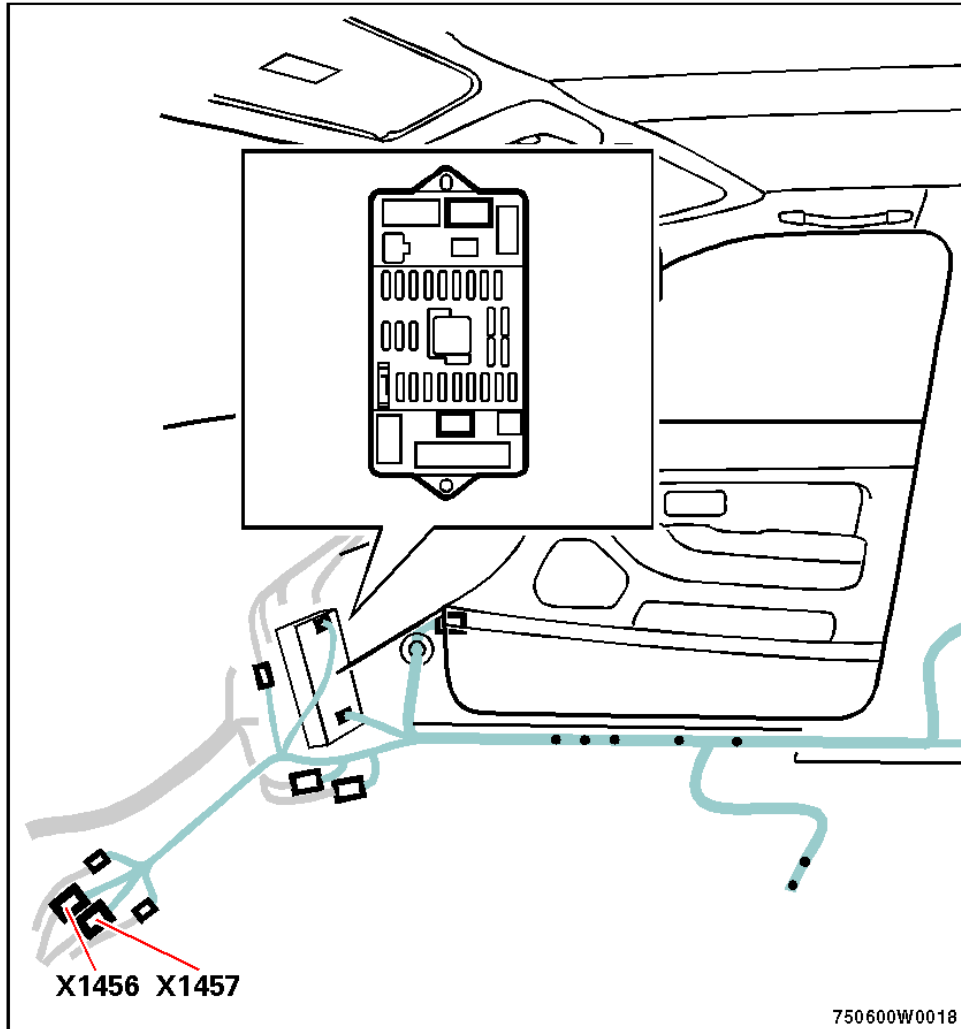

Figure 1 Right-hand drive vehicles
8. With reference to figure 1 locate connector X1456.
1. With reference to figure 1 identify connector X1457.